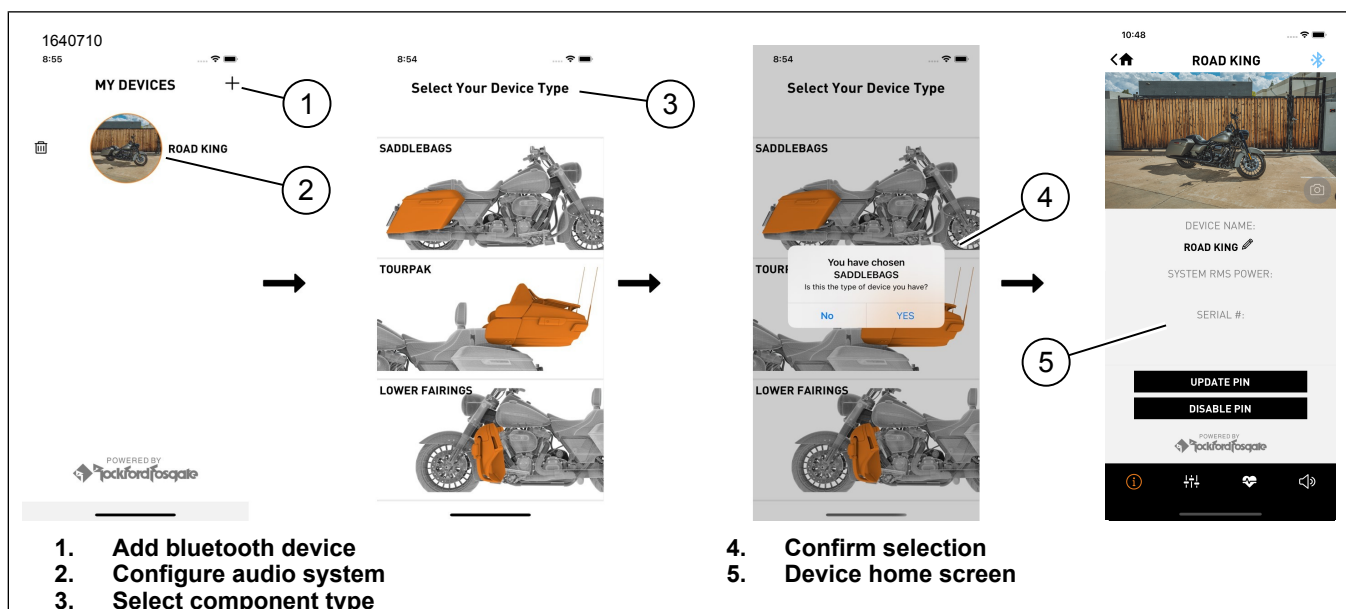
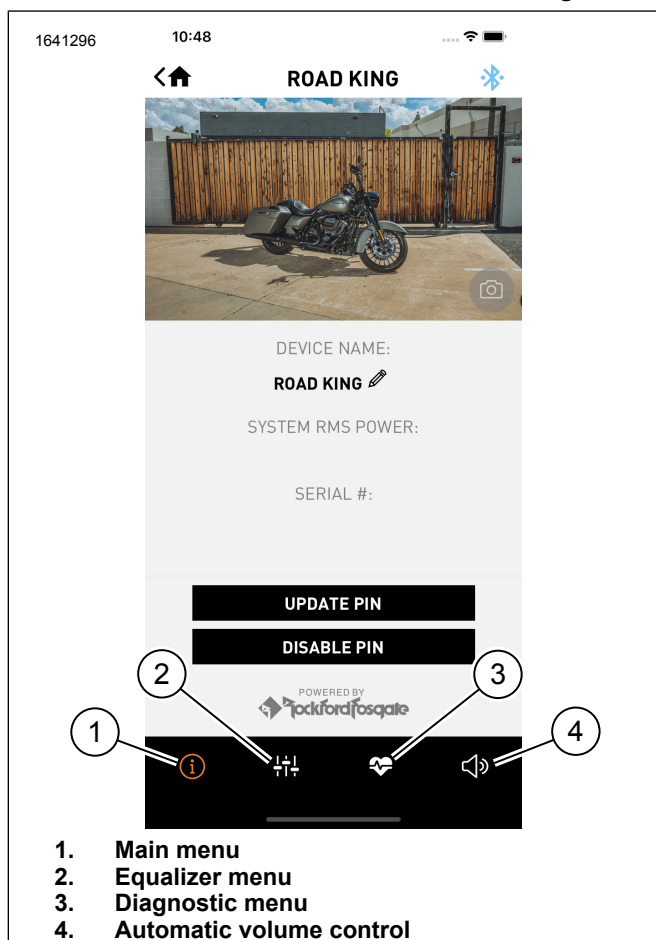
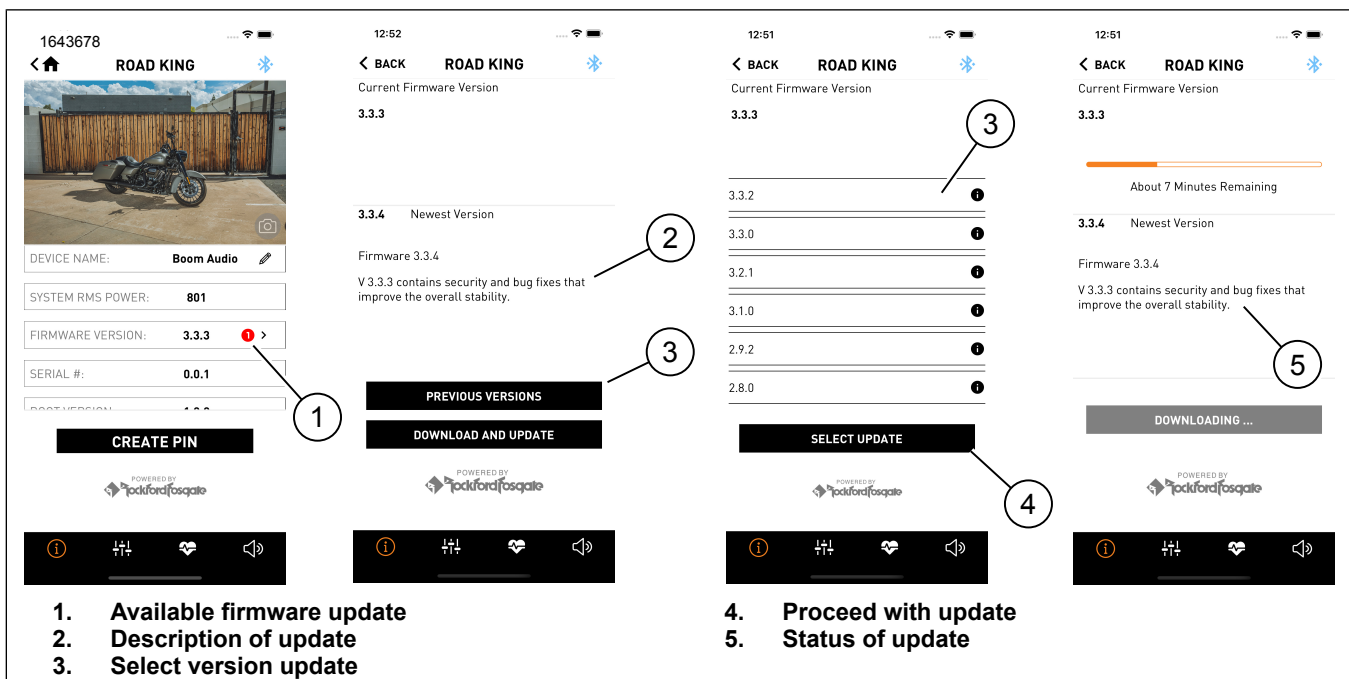

Figure 17. Setup Process
Figure 18. Menu Bar
Figure 19.
1. See Figure 17. Accessing your audio system.
- a. Pair device (1) to system.
- b. Access app menus (2) to setup vehicle sound system.
2. Select configuration (3) where speakers have been installed on vehicle.
3. Confirm selection (4).
4. After setup is complete, device home screen (5) will display.
5. See Figure 18. Press menu bar icons for:
- a. Main menu (1)
- b. Equalizer menu (2)
- c. Diagnostic menu (3)
1. See Figure 19. Red circle indicates that there is an available firmware update (1).
2. Short description of update (2).
- b. Press previous version (3) if that version is desired.
3. Select a version update (3) and proceed with update (4).
- a. See Figure 18. Pressing Main Menu (1) icon will provide more information about the update.
4. Screen shows status of update (5) being applied to amplifier.